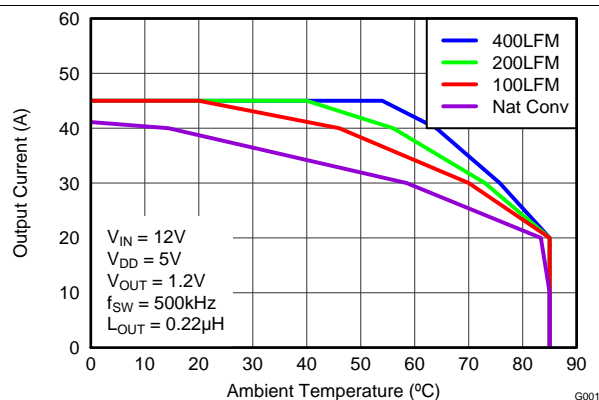

Figure 4. Safe Operating Area (SOA)– PCB Horizontal Mount⁽¹⁾
The SOA curves in the CSD95373AQ5M data sheet give engineers guidance on the temperature boundaries within an operating system by incorporating the thermal resistance and system power loss. Figure 4 and Figure 5 outline the temperature and airflow conditions required for a given load current. The area under the curve dictates the safe operating area. All the curves are based on measurements made on a PCB design with dimensions of 4" (W) \times 3.5" (L) \times 0.062" (T) and 6 copper layers of 1 oz. copper thickness.